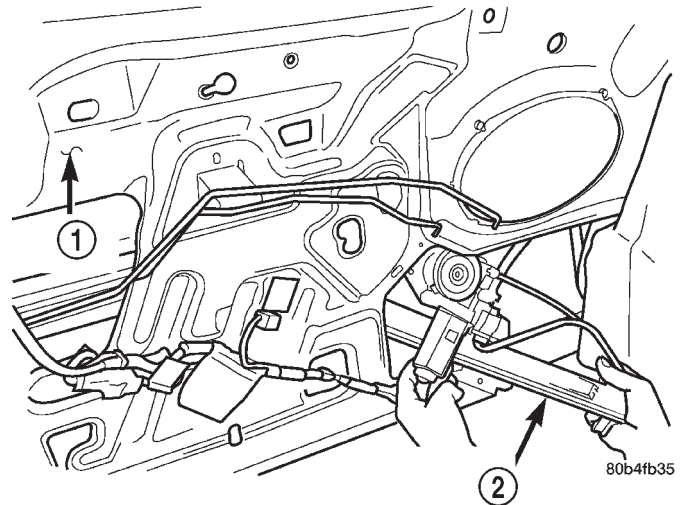

Fig. 17 Front Door Window Regulator
- (3) Remove bolt attaching regulator to inner door panel (Fig. 17).
- (4) Lift regulator upward to disengage bolts from door inner panel.
- (5) Disengage power window regulator harness connector, if equipped.
- (6) Remove regulator through access hole in door.